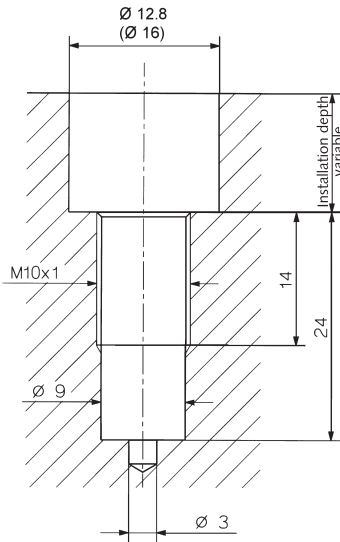

Fig. 1: Mounting hole with flat bottom
- Prepare the mounting hole as shown in Figure 1; the 9 mm  $\varnothing$  end bearing surface for the sensor must be machined clean and flat (and if necessary finished with Type 1300A21 tool and blown out with clean compressed air).